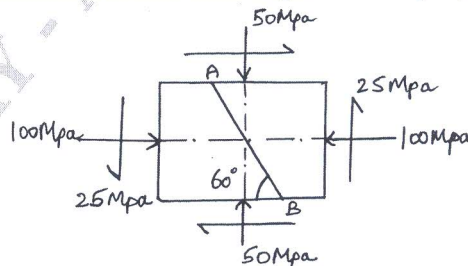

Fig.Q3(b)
b. A machine component is subjected to the stress as shown in Fig.Q3(b). Find the normal and shearing stresses on the section AB inclined at an angle of 60° with X - X axis. Also find the resultant stress on the section and also find angle of obliquity. (08 Marks)